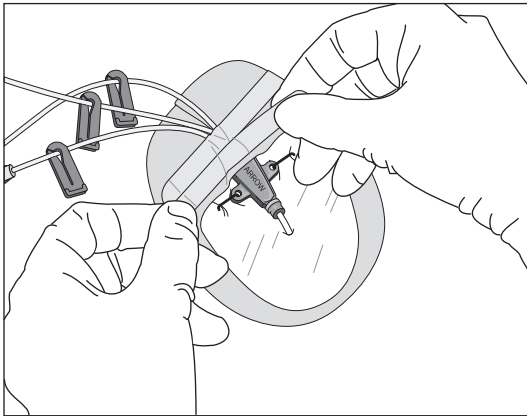

Figure 8
- Use sterile tape strips to secure hub, lumens, and/or tubing (refer to Figure 8).